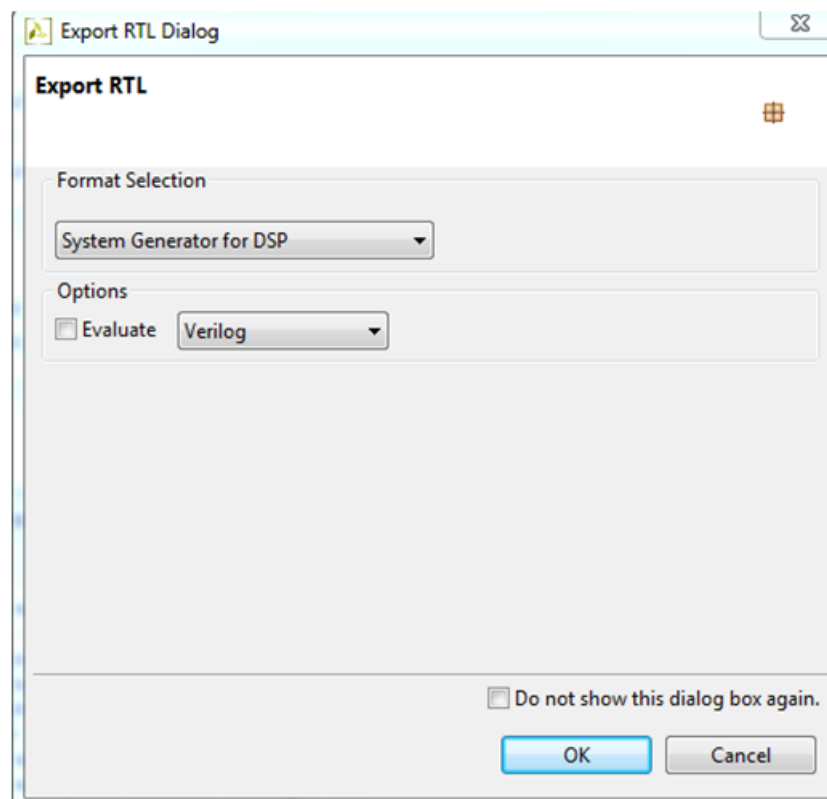

Figure 3-16: RTL Export Dialog
10. When the Export RTL menu opens, select **System Generator for DSP** from the drop-down menu (Figure 3-16).
Note: If RTL synthesis was executed to evaluate the design, the results of RTL synthesis are not included in the export package. They are only provided as an evaluation check, not part of the IP, and hence they are stored in the `solution/impl/<HDL>` directory (verilog or VHDL, depending on the selection made in Figure 3-16). The RTL IP should be re-synthesized with the complete design to obtain the final results (after the entire design is placed and routed).